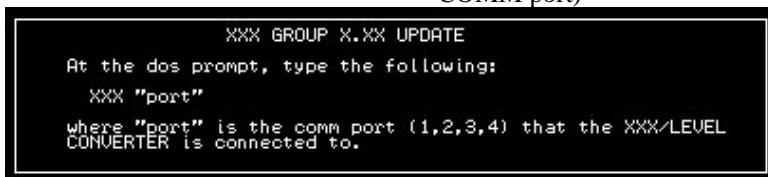

Figure 6 - Port Screen
6. The Port Screen in Figure 6 will appear and prompt you for the COMM port (1, 2, 3 or 4) that the convertor box is connected to.